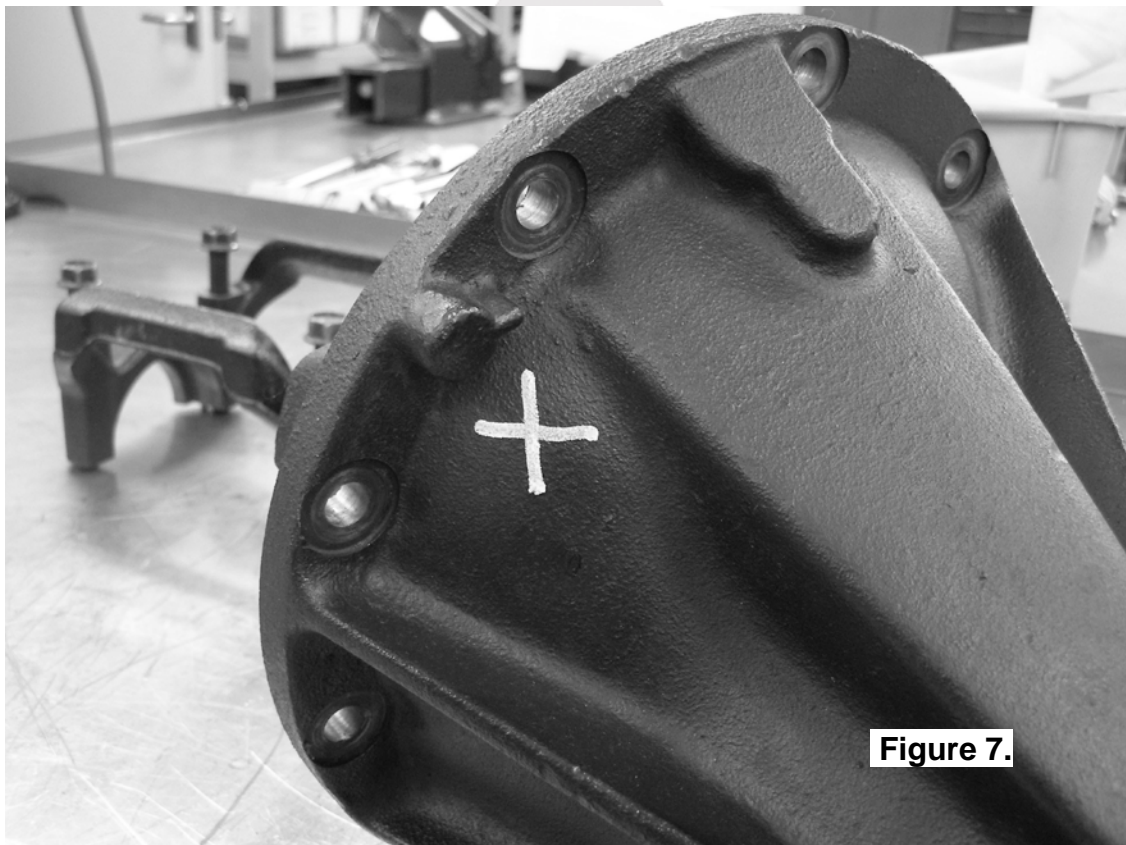

Figure 7.
- Mark a spot on the exterior of the differential housing toward the top in an area that will be well clear of the *Air Locker* body, the ring gear, and any other obstructions that could snag the seal housing tube. (Fig.7.)